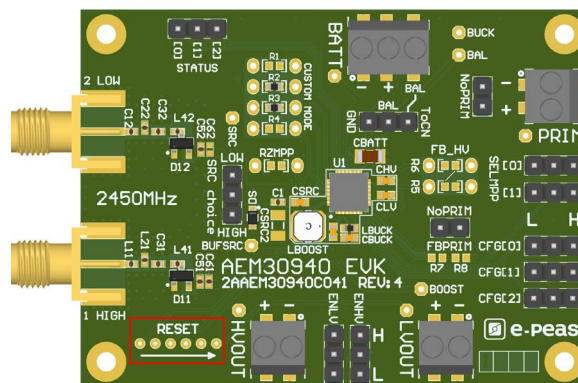

Figure 2: Board reset
1. Reset the board - see “How to reset the AEM30940 evaluation board” on Figure 2.